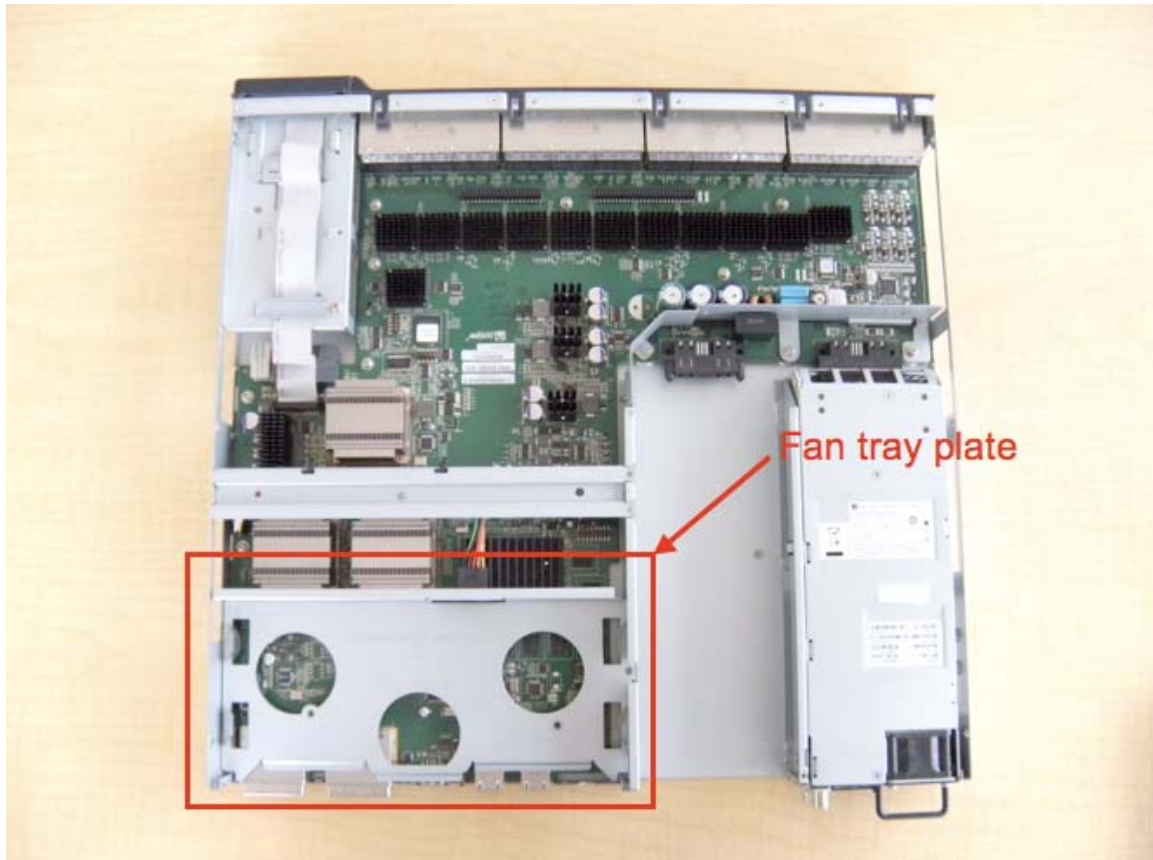

Figure 3-5: Open Chassis
6. Remove the top of the chassis and note the location of fan tray plate (figure 3-5)